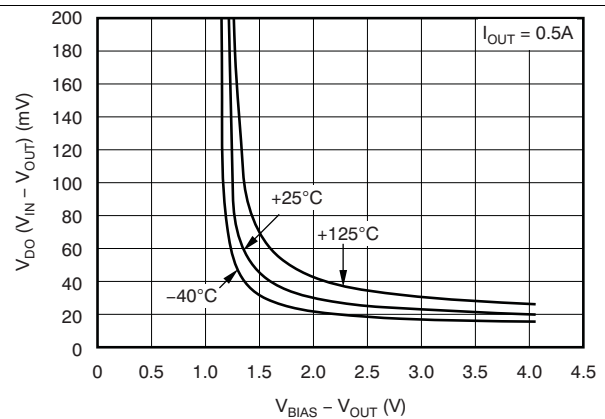

Figure 6. Dropout Voltage vs  $(V_{BIAS} - V_{OUT})$  and Temperature ( $T_J$ )
(1) Adjustable devices tested at 0.8 V; resistor tolerance is not taken into account.
(2) Dropout is defined as the voltage from VIN to VOUT when VOUT is 3% below nominal.
(3) 1.62 V is a test condition of this device and can be adjusted by referring to Figure 6.
(1)  $1.62\text{ V}$  is a test condition of this device and can be adjusted by referring to Figure 6.